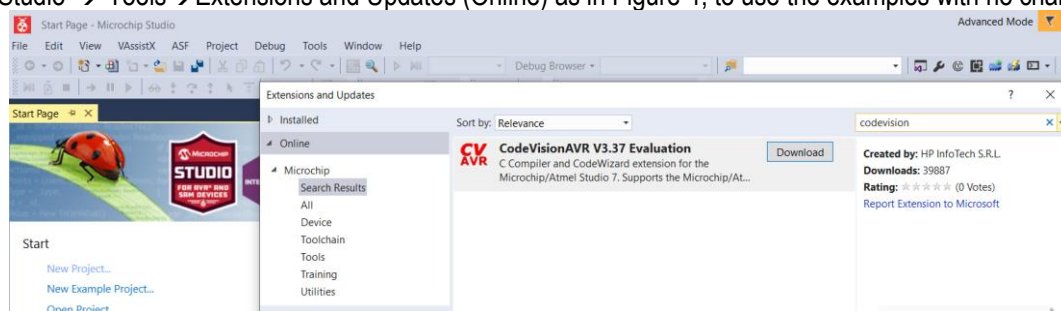

Figure 4 – CodevisionAVR as extension of Microchip Studio
If Microchip Studio [ref03] is installed (a much bigger program), a demo version plug-in of the Codevision AVR can be downloaded into Microchip Studio → Tools→Extensions and Updates (Online) as in Figure 4, to use the examples with no changes: